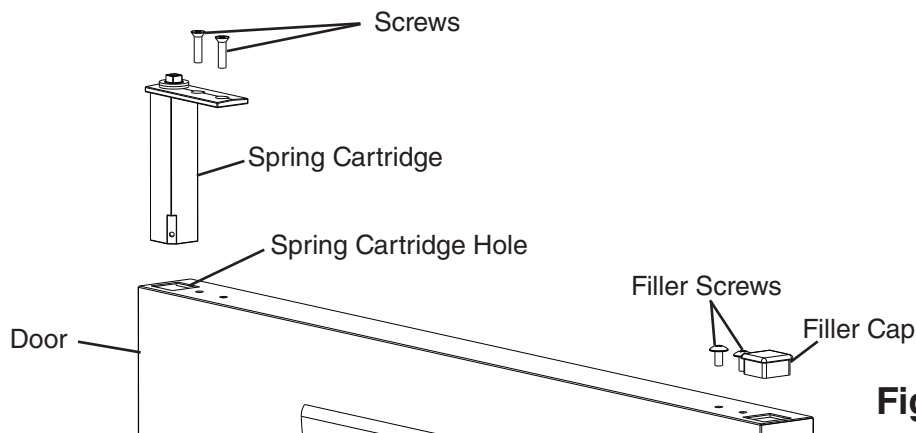

Fig. 17
- 9) Clear foam from the spring cartridge hole to allow for spring cartridge installation. See Fig. 17. Install the spring cartridge in its new location. Reinstall the filler cap and filler screws on the opposite side of the door.